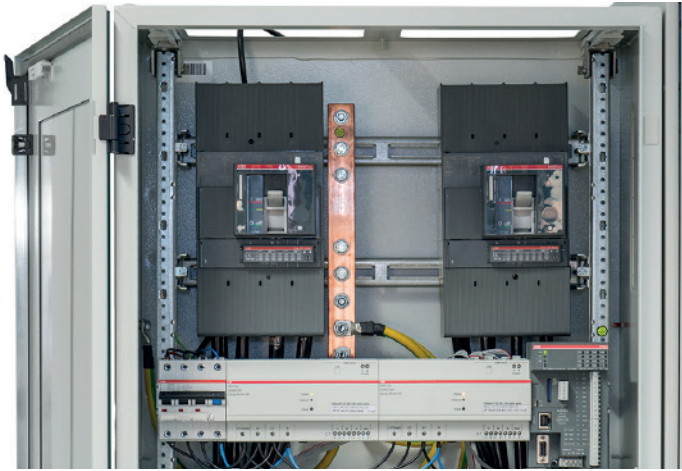

Fig.4: Position of the MCCB'S
- Apply mounting screws for PE connection as depicted in the Fig.4